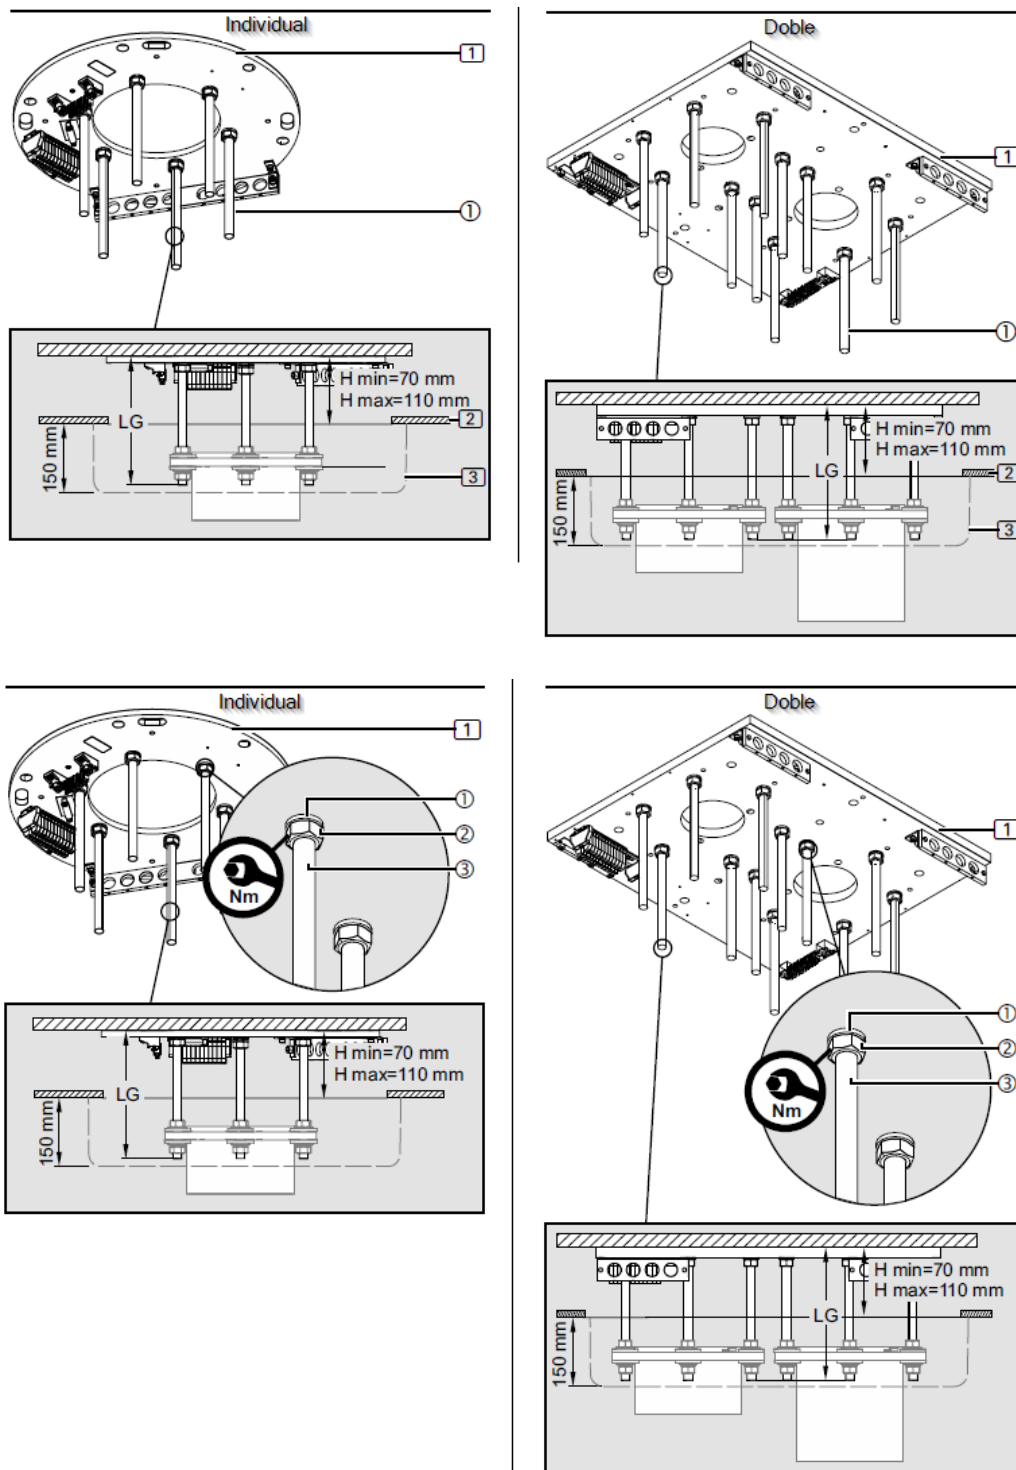

Fig. 17 Installation of interface plate with false ceiling
- The roof trim (3) will later be mounted flush with the roof and covers the roof pipe flange.
- The required length of the threaded bolts M16 x 330 mm ① depends on the distance H: from the roof to the lower edge of the intermediate ceiling 2.
- Please note the minimum and maximum length of the threaded bolts M16 x 330 mm ①.
- For the ceiling trim (3), which has a height of 150 mm, the 6/12 M16 x 330 mm threaded bolts ③ must be cut as shown in Fig. 17.
- To determine the LG length of the threaded bolts ①, $LG=H +135\text{mm}$ (min. 205mm / max. 245mm)
- Lightly deburr the M16 x 330 mm threaded bolts ① to ensure maximum thread engagement in the interface plate (1).
- Thread 1 M16 hex nut ② each onto the M16 threaded bolts ③ and then fit 1 spring washer ① each.